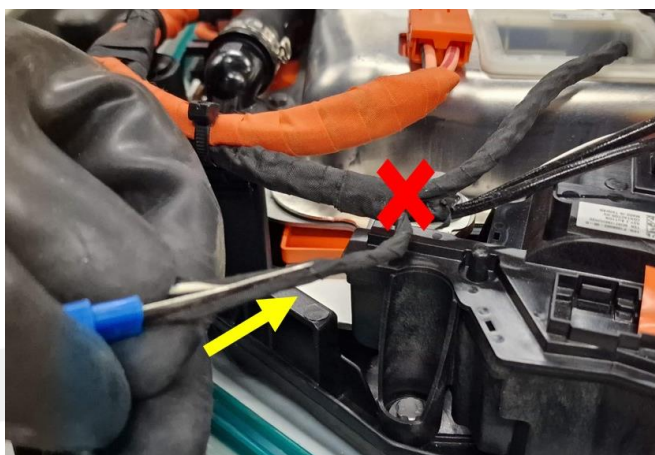

Figure 8
11. Remove the tape from the positive pack contactor switch harness branch. (Figure 8).